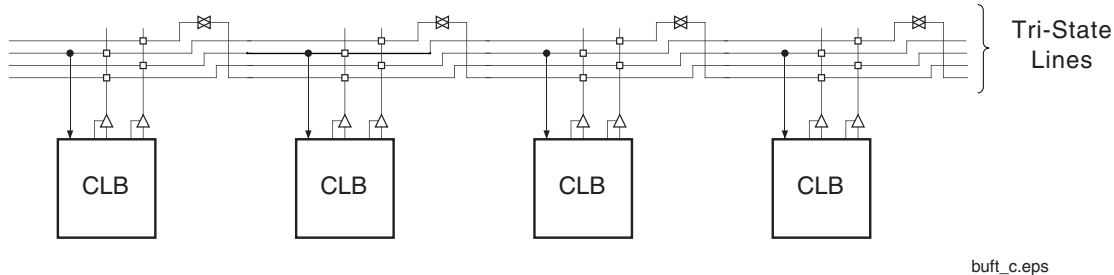

Figure 8: BUFT Connections to Dedicated Horizontal Bus Lines
- Horizontal routing resources are provided for on-chip 3-state busses. Four partitionable bus lines are provided per CLB row, permitting multiple busses within a row, as shown in Figure 8.